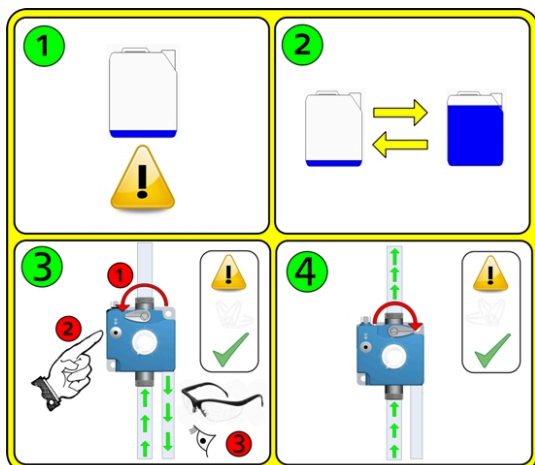

Figure 16. Chemical supply pump
2. Turn the Switch (3-1) (see figure 16 on page 3-17) of the chemical supply pump to the left.
12. Bleed the basic pump as follows (see figure 16 on page 3-17):